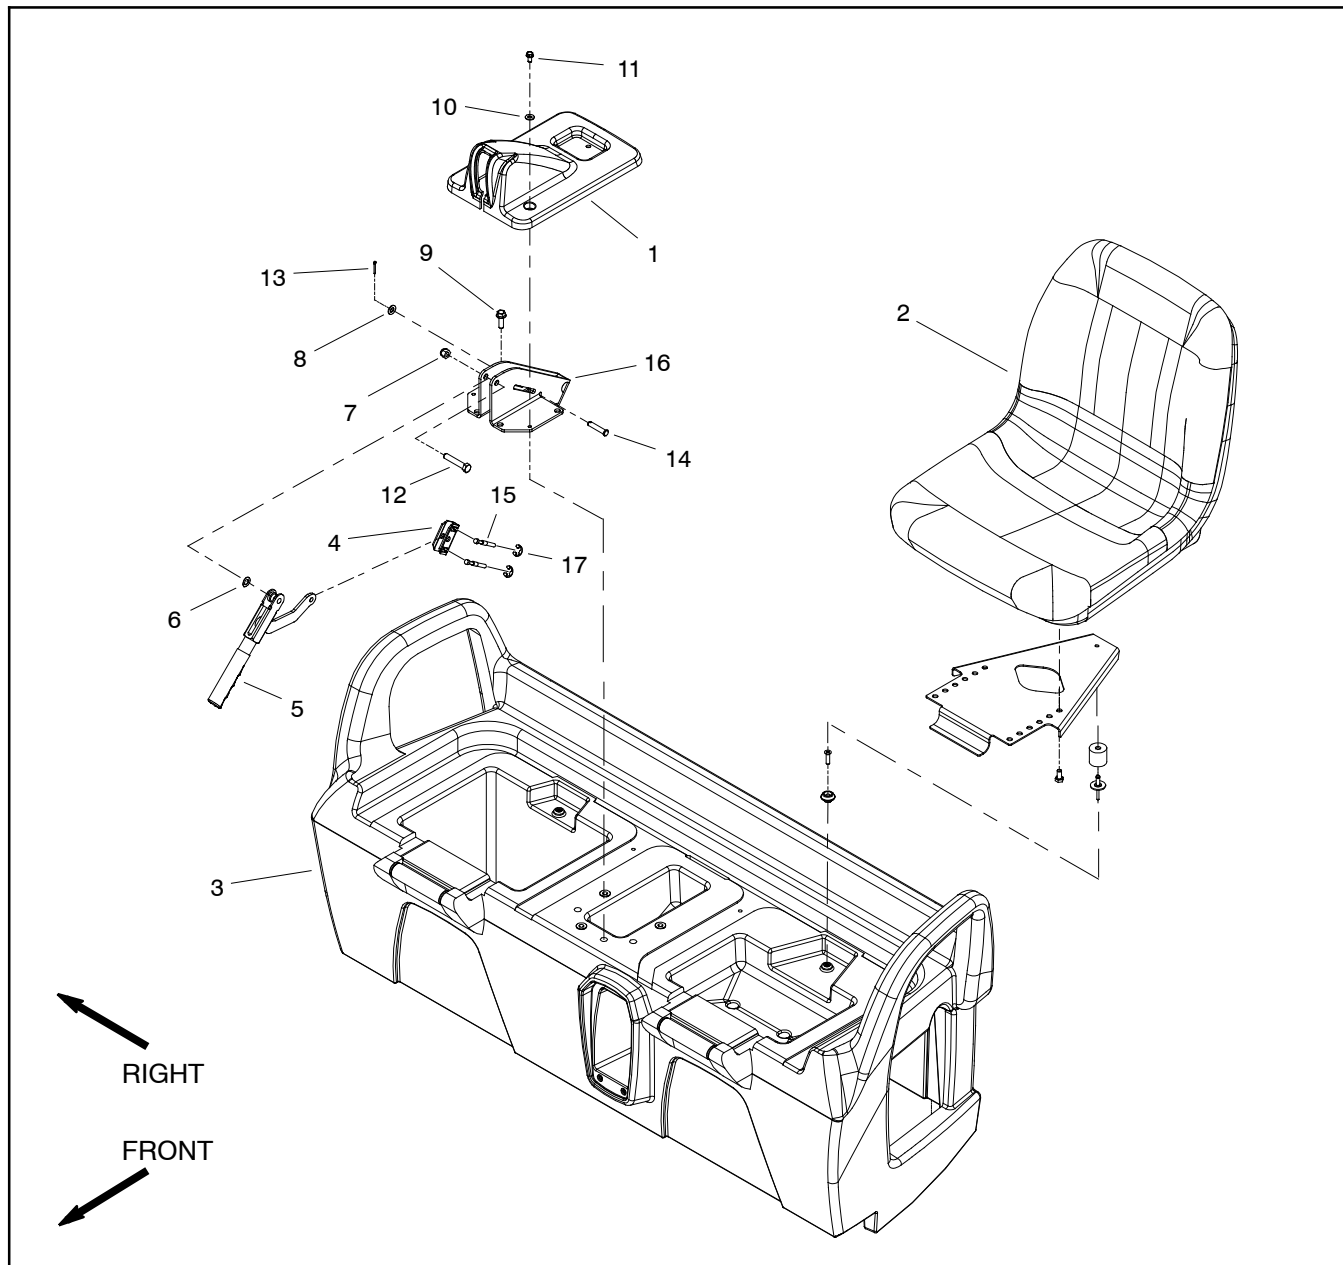
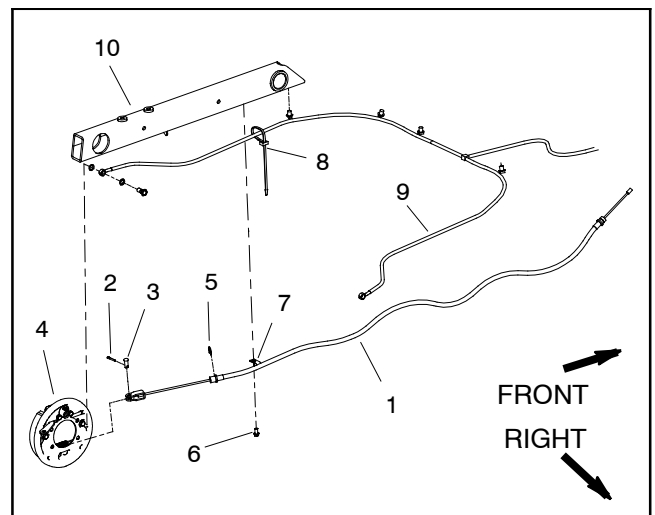

Figure 22
Figure 23
Disassembly (Fig. 22)
2. Disconnect both parking brake cables from rear of machine (Fig. 23):
4. Remove four (4) flange head screws that secure parking brake support to seat base.
6. Remove brake cables from parking brake support and cable equalizer bracket using Figure 22 as a guide.
Assembly (Fig. 22)
1. Secure brake cables to parking brake support and cable equalizer bracket using Figure 22 as a guide.
3. Secure parking brake support to seat base with four (4) flange head screws.
5. Secure parking brake cables to rear of machine (Fig. 23):